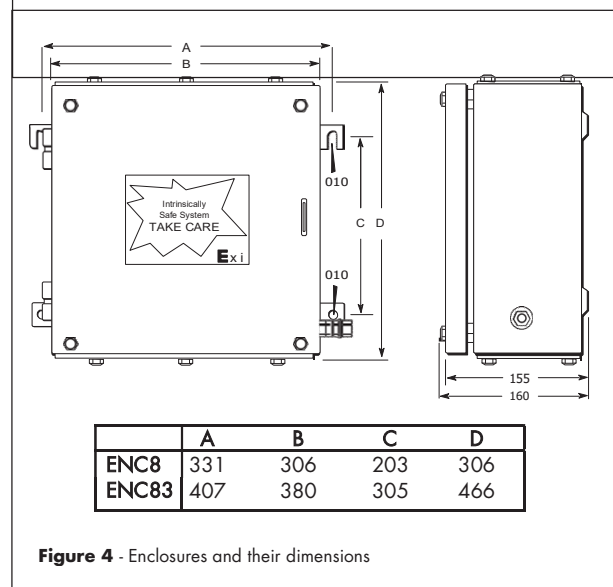

Figure 4 - Enclosures and their dimensions
3.2.3 Mounting in an ENC8, ENC8-SS, ENC83 or ENC83-SS enclosure (figure 4)
Mount the enclosure on any flat surface using four M8 bolts (or other suitable fasteners with a shank diameter of 8mm or less) through the four fixed lugs according to the mounting centres shown in figure 4.